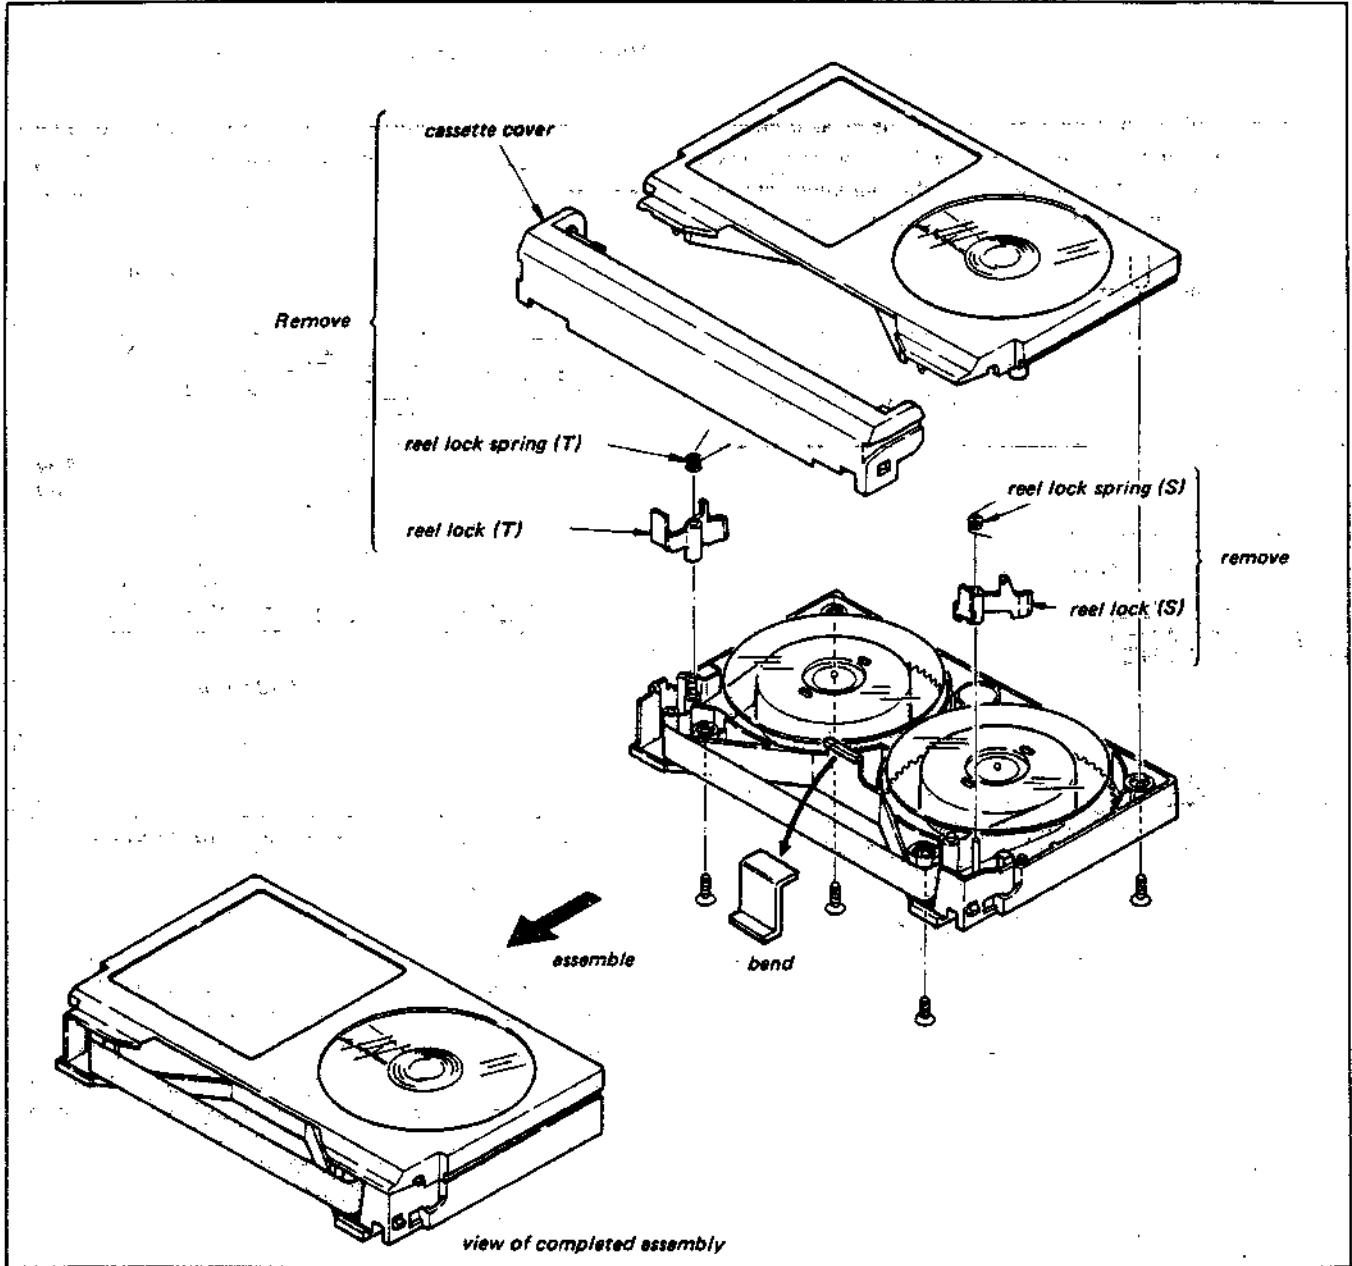

Fig. 4-1.
- 1) Remove the cassette cover of the alignment tape in accordance with Fig. 4-1.